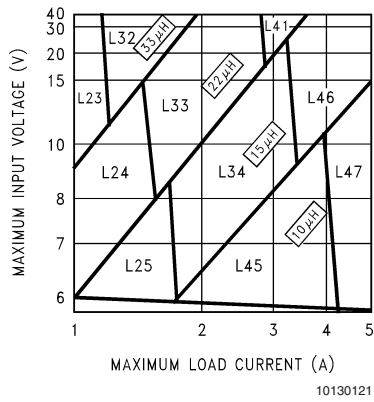
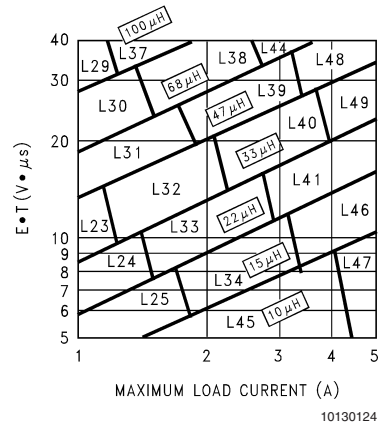

FIGURE 3. LM2677-3.3
FIGURE 6. LM2677-ADJ
Step 3: Determine the inductor required by using one of the four nomographs, *Figure 3* through *Figure 6*. Table 1 provides a specific manufacturer and part number for the inductor.
Step 5: Determine an input capacitor from Table 4 for fixed output voltage applications. Use Table 2 to find the specific capacitor type. For adjustable output circuits select a capacitor from Table 2 with a sufficient working voltage (WV) rating greater than $V_{in\ max}$, and an rms current rating greater than one-half the maximum load current (2 or more capacitors in parallel may be required).
Step 3: Use the nomograph for the 3.3V device, *Figure 3*. The intersection of the 16V horizontal line ($V_{in\ max}$) and the 2.5A vertical line ($I_{load\ max}$) indicates that L33, a 22 μH inductor, is required.
Step 3: To use the nomograph for the adjustable device, Figure 6, requires a calculation of the inductor Volt•microsecond constant (E•T expressed in V•µs) from the following formula:
Using Figure 6, the intersection of 27V•µs horizontally and the 2A vertical line (I_{load} max) indicates that L38, a 68µH inductor, should be used.
Important Note: When using the adjustable device in low voltage applications (less than 3V output), if the nomograph, Figure 6, selects an inductance of 22µH or less, Table 6 does not provide an output capacitor solution. With these conditions the number of output capacitors required for stable operation becomes impractical. It is recommended to use either a 33µH or 47µH inductor and the output capacitors from Table 6.